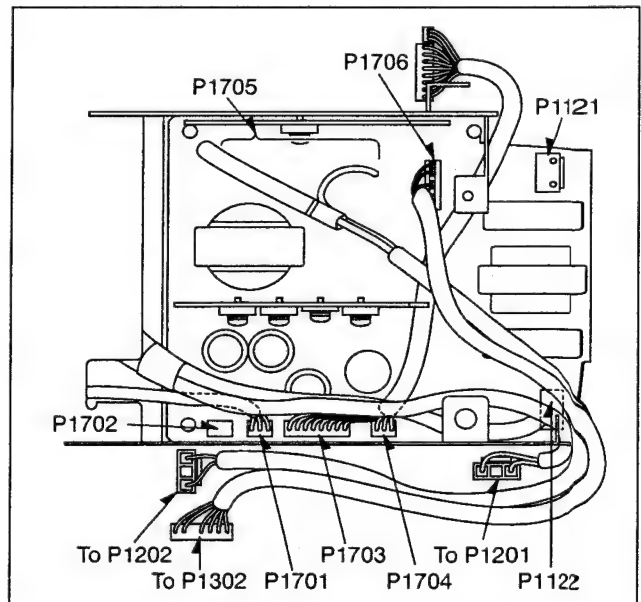

Fig. P11
2. Make sure that all cables and leads are placed in their original position as shown in Fig. P11.